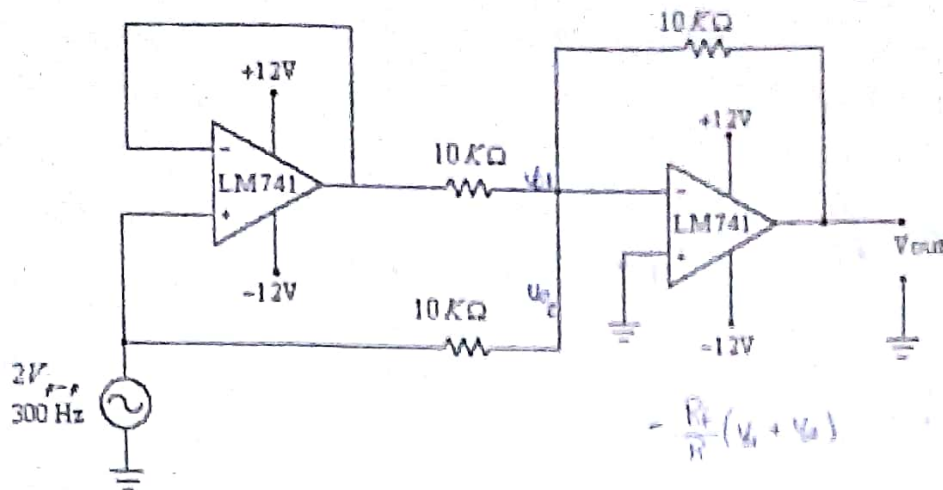

Fig.7: A Two-Input Summing Amplifier.
12. Construct the circuit shown in Figure 7. Note that the signal generator is supplying both inputs to the summing amplifier, which is op-amp 2. Note that op-amp1 in Figure 7 is included simply as a buffer; that is, it is being used to provide isolation between the two summing amplifier inputs.